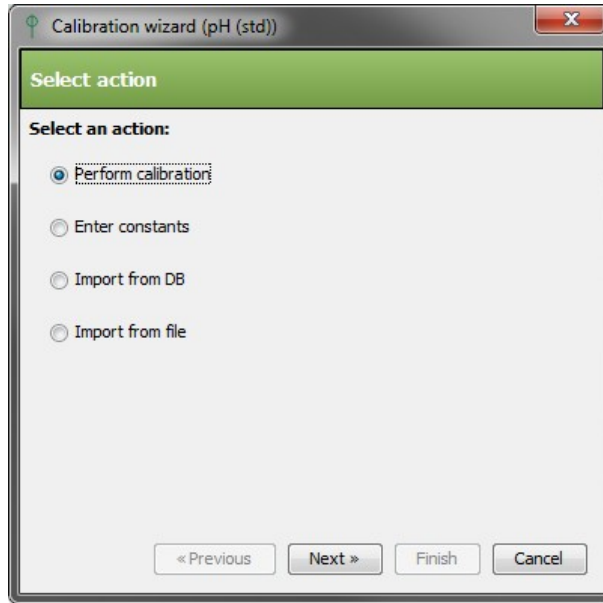

Fig. 19: Calibration action selection step
- The “Calibrate..” button will open the *calibration wizard* as shown on Fig. 19. The first step in the wizard selects desired calibration action.